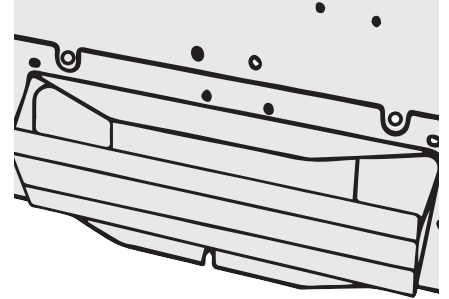

Figure 11
- Install rectangular air damper outlet on the rear vent location (see Figure 11).